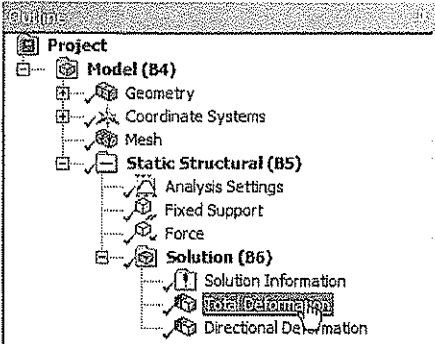
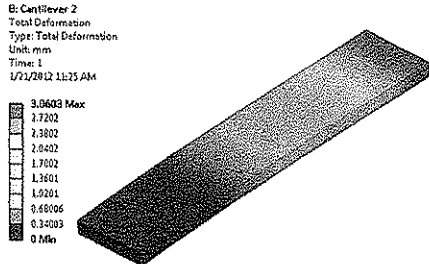

Figure 9-26 Selecting the Total Deformation node
Figure 9-27 Total Deformation displayed in the Graphics Screen
1. Select **Total Deformation** under the **Solution** node in the Tree Outline, as shown in Figure 9-26; the Total Deformation of the cantilever is displayed in the Graphics screen, as shown in Figure 9-27. Also, the corresponding Legend is displayed in the Graphics screen.